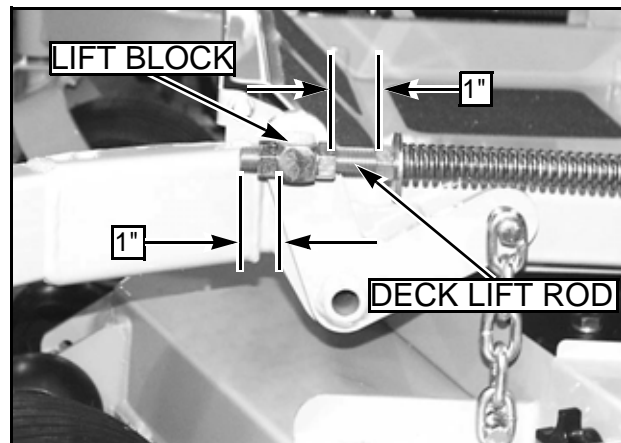

FIG. 96
9. Set the amount of threads protruding on the deck lift rod from the lift block at approximately 1" "FIG. 96".
27. Compress the deck lift assist springs so that there is 1" of space between the front nut and on the spring and the rear nut on the deck lift block "FIG. 96". Typical both sides.